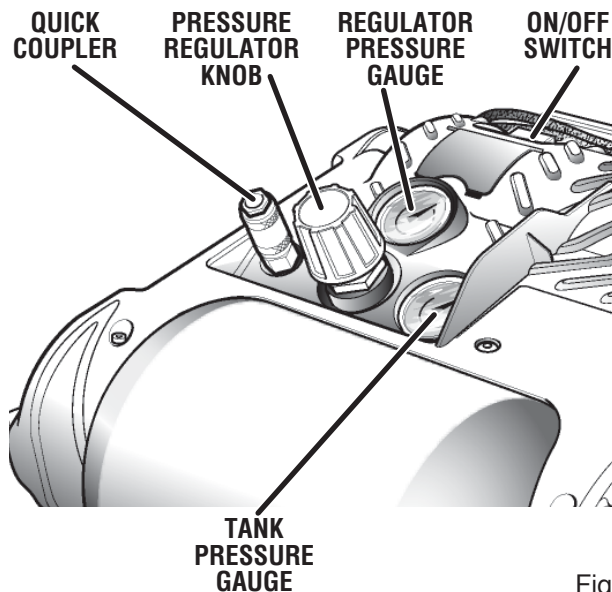

Fig. 3
- Insert the hose into the quick coupler already installed on the compressor (Fig. 3).
See Figures 3 - 4.